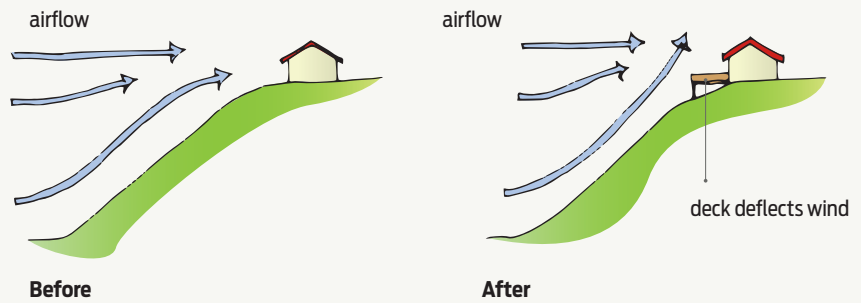

Figure 7 Building a deck to deflect wind.
- building a terrace or deck to deflect the wind (see Figure 7)